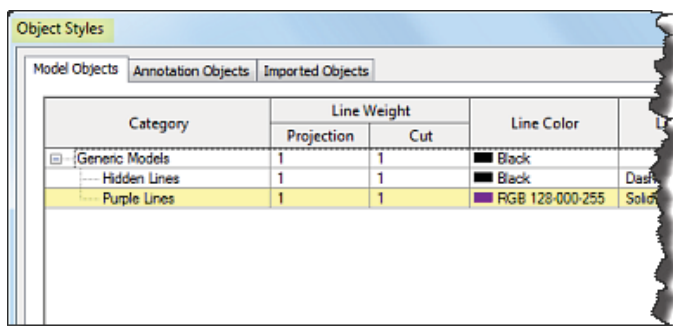

Figure 24 - Object Styles dialog box
- The change in color makes it easier to draw the symbolic lines. Symbolic lines appear as black lines by default. However, you can change its color. Go to Manage tab>Settings panel>Object Styles and change the color to a different one. You can also choose to add a new line by clicking on New, naming the line category and specifying a different color (see Figure 24).